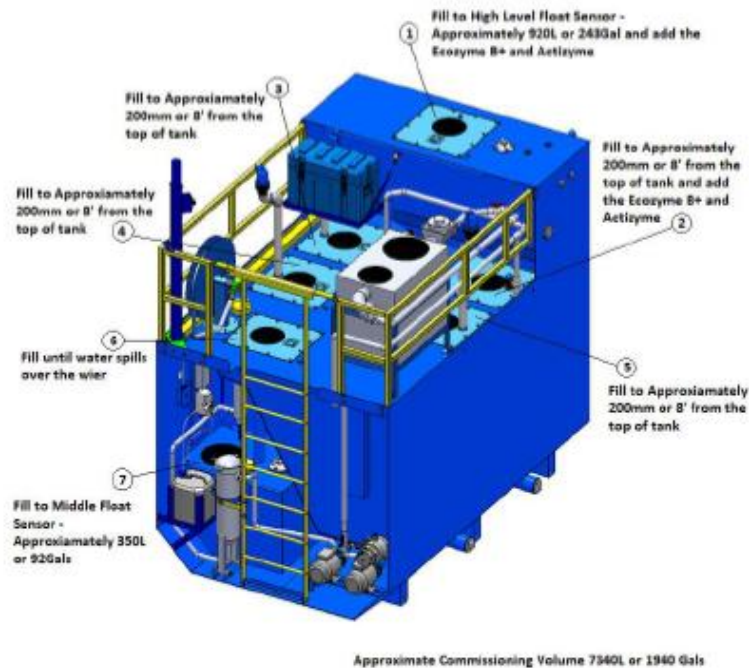

Fig. 6
1. Remove the lid on the balance tank (tank 1); fill with water up to the float sensor level (approx. 920 litres=243 gallons) and dose with 1 x 500mls (.13 gallons) container of Ecozyme B+ or US alternative and 200 grams or 7 ounces of Compost accelerator (Actizyme or US alternative) before replacing the lid. (see Fig.6)
2. Remove the lids on the 3 aeration chambers (tanks 3, 4 and 5) filling all 3 tanks to (approximately 200mm or 8" from the top of the tanks). Replace the lids back onto the 3 aeration chambers (tanks 3, 4 and 5). (see Fig.6)
3. Remove the lid on the separation chamber (tank 2), filling the tank (approximately 200mm or 8" from the top of the tank). Dose with 1 x 500mls (.13 gallons) container of Ecozyme B+ or US alternative and 200 grams or 7 ounces of Compost accelerator (Actizyme or US alternative) before replacing the lid. (see Fig.6)
4. Add water to the sedimentation chamber (tank 6) level to the top of the weir. (see Fig.6)
5. Add water to the disinfectant tank (tank 7) (see Fig.6)